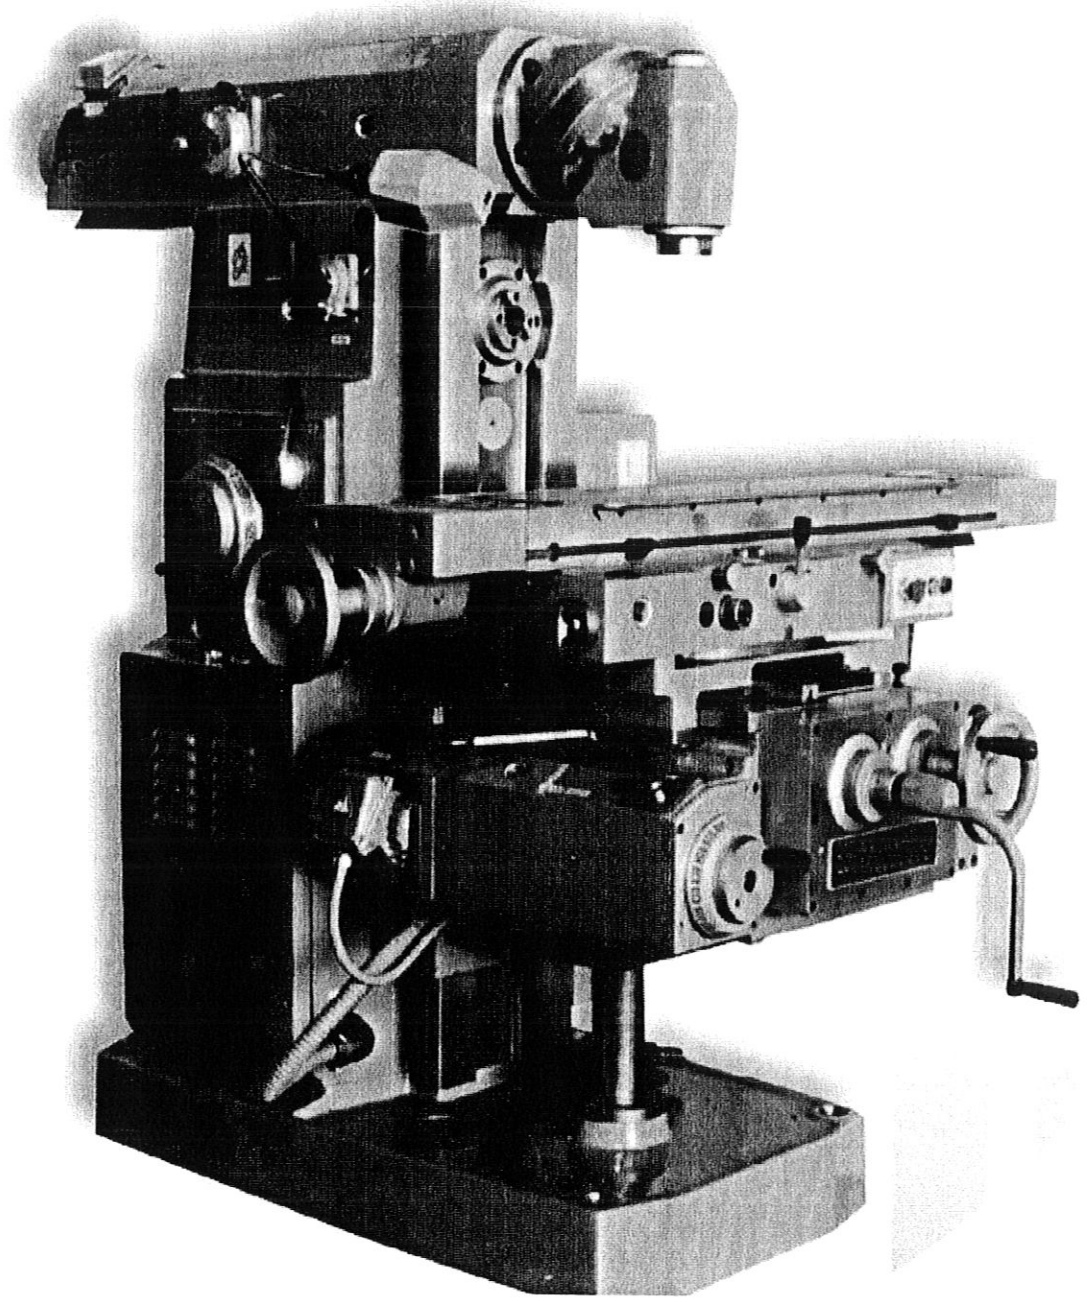
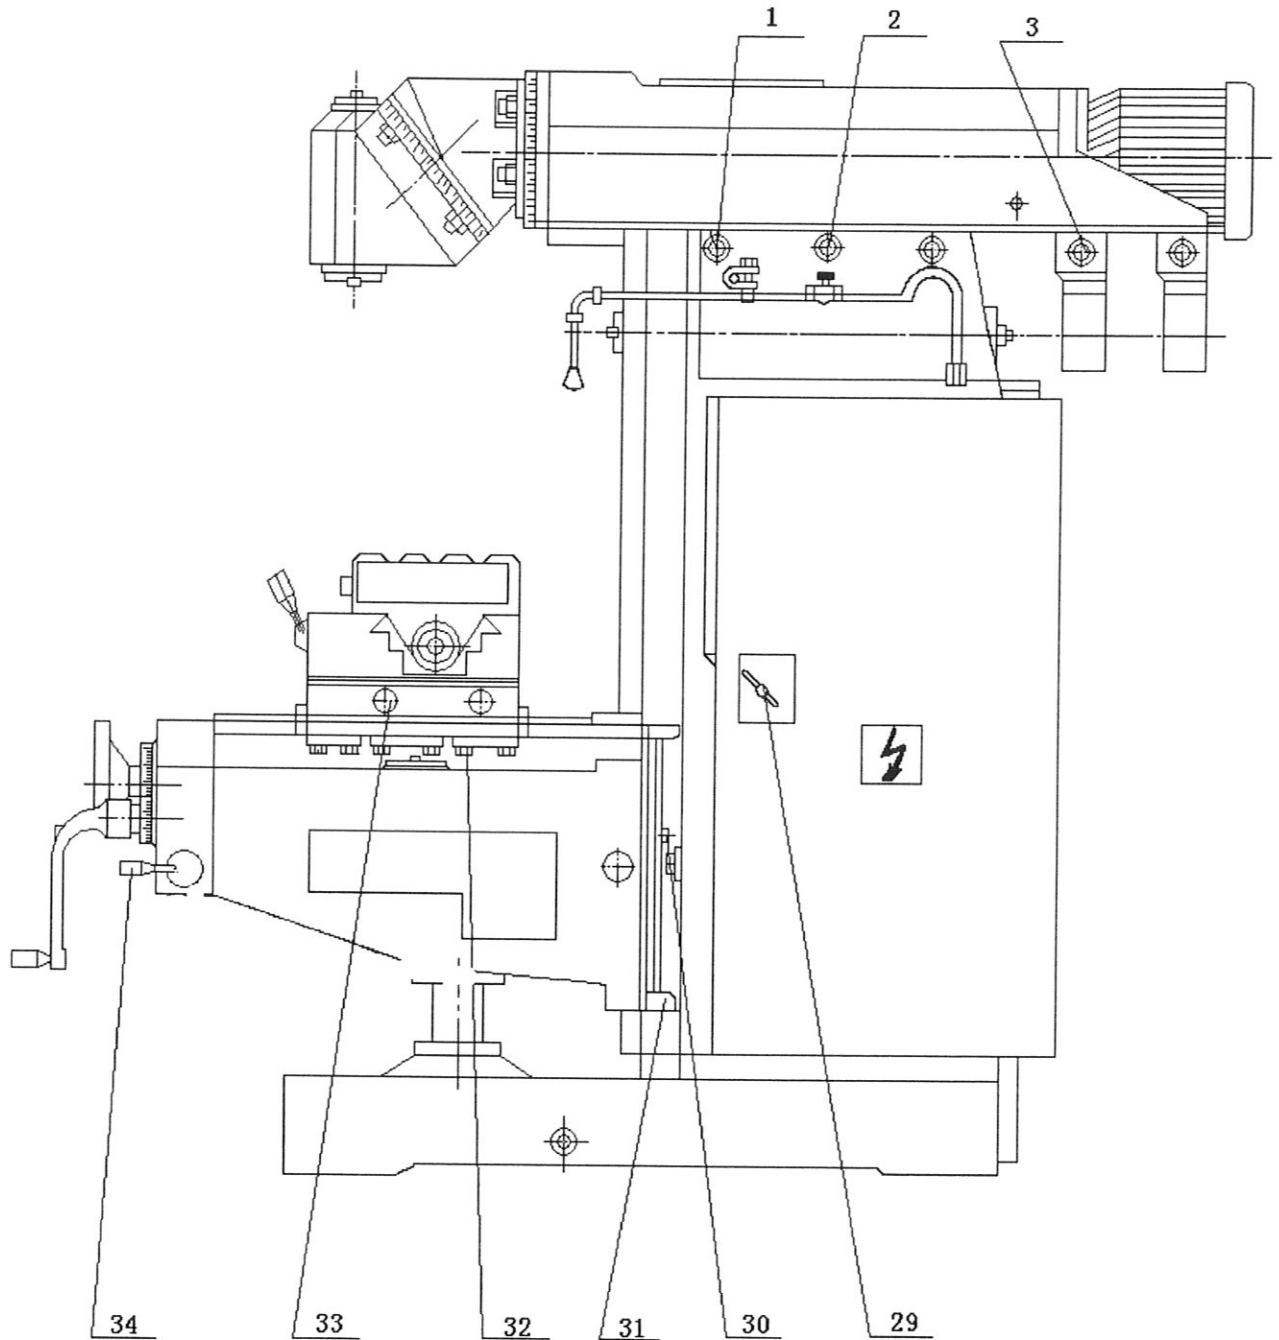
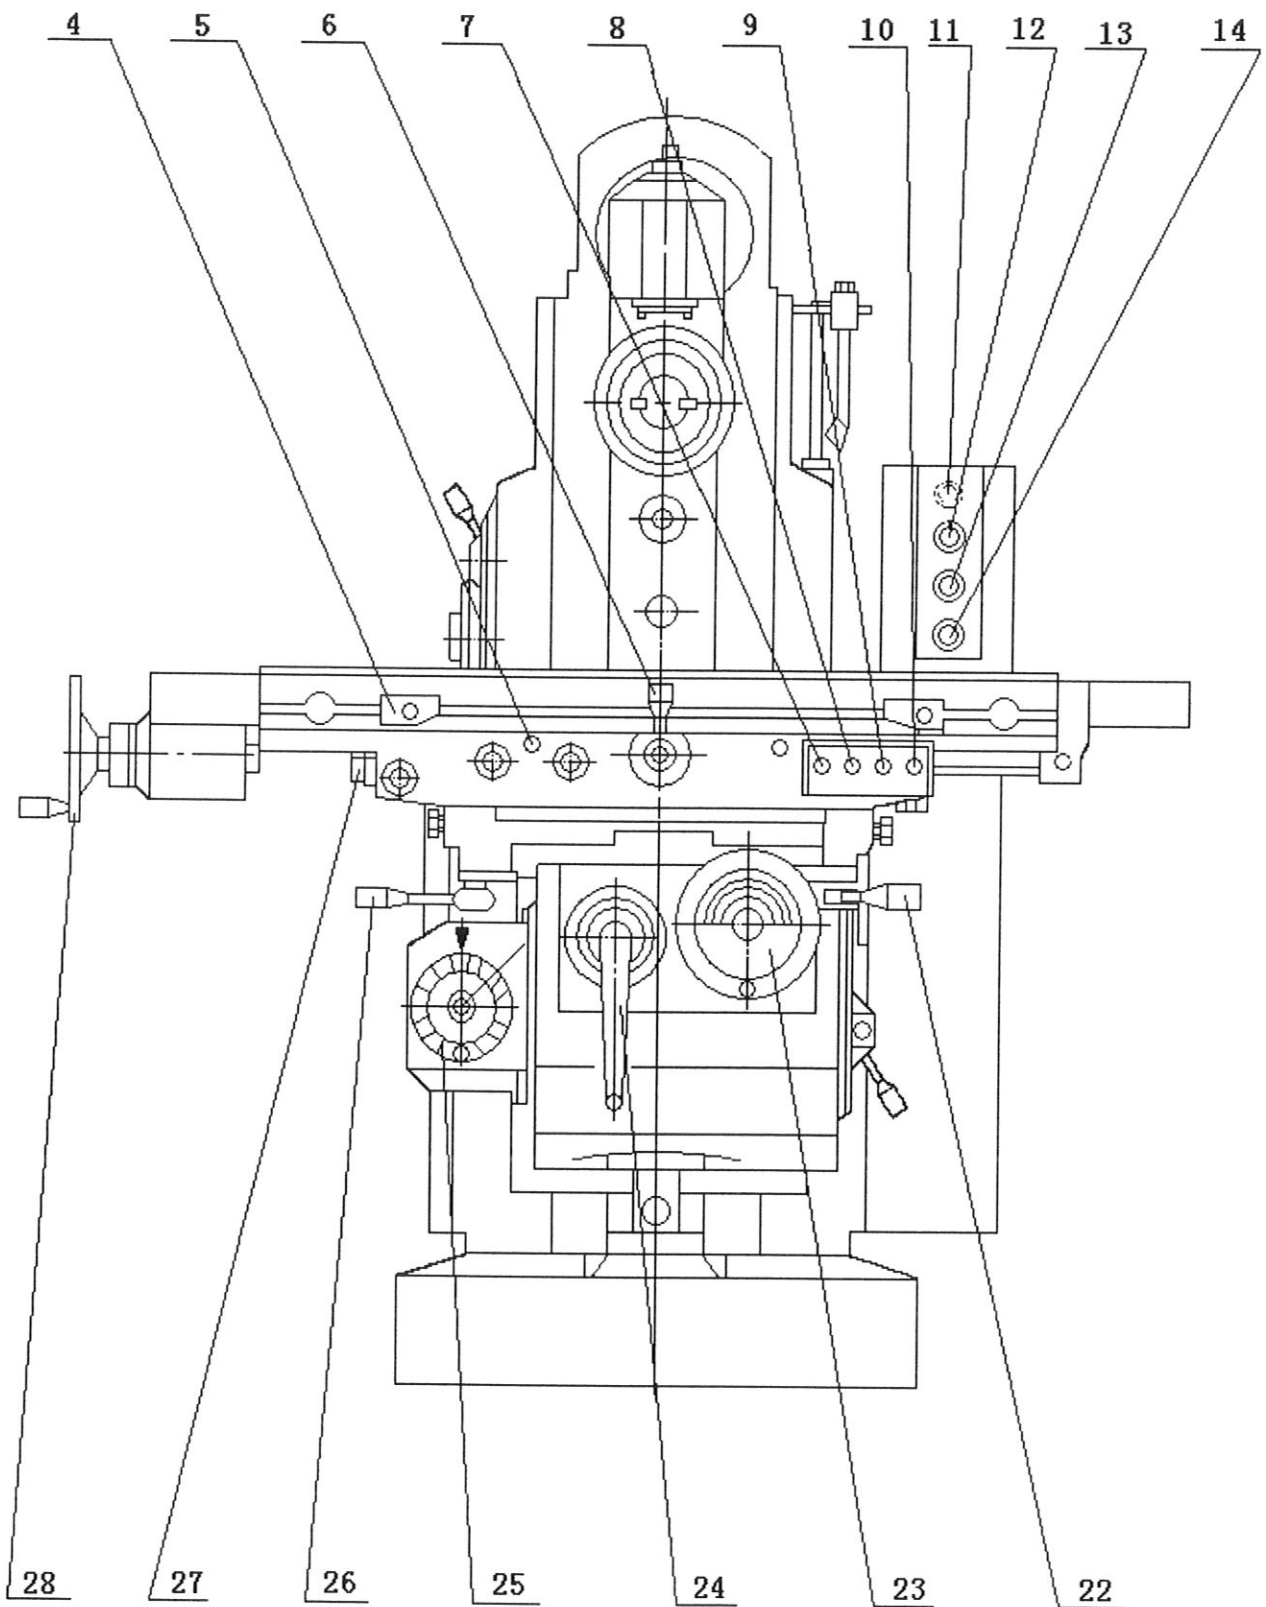
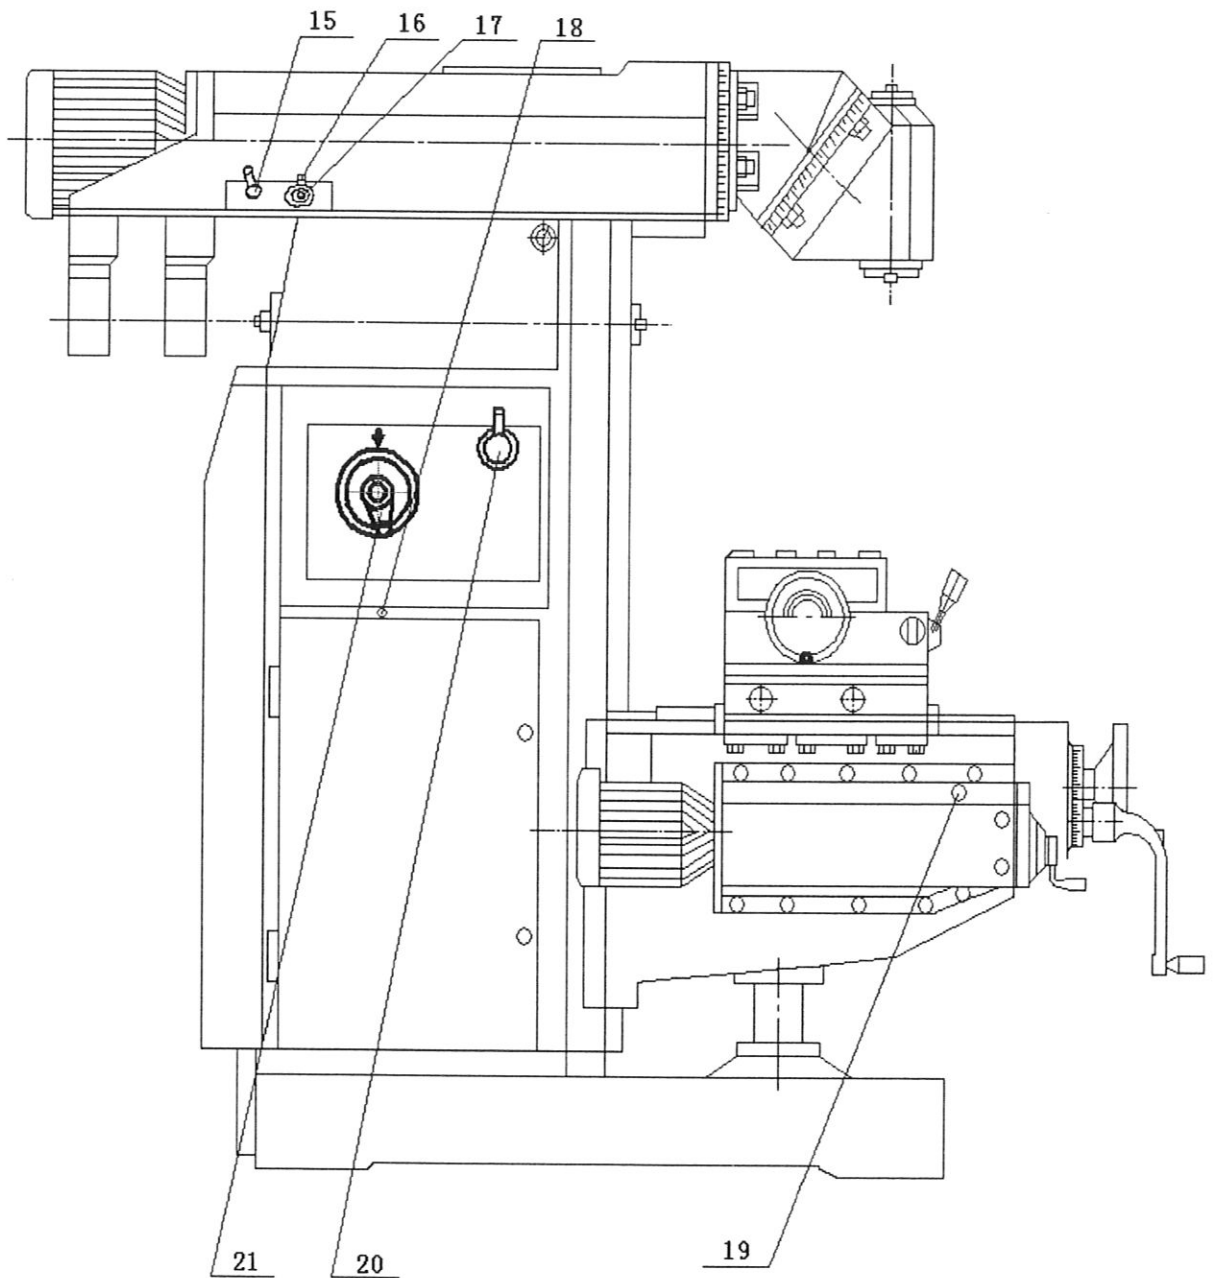

Fig.1 Overview of Series X6230 Universal Rotary Head Milling Machine
Fig.1a Right view of series X6230 Universal Rotary-Head Milling Machine
Fig.1b Main view of series X6230 Universal Rotary-Head Milling Machine
Fig.1c Left view of series X6230 Universal Rotary-Head Milling Machine
1.1 Model, Name and features. (See Fig.1)
See Fig. 1. Fig1a. Fig1b. & Fig1c for overview of the machine.
2.2 Main specification of the machine(see Fig1)